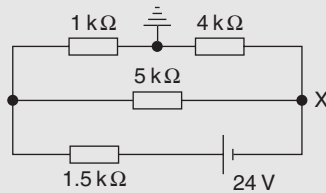

Figure 5.50
**Problem 17.** For the circuit shown in Fig. 5.50, calculate (a) the voltage drop across the  $4 \text{ k}\Omega$  resistor, (b) the current through the  $5 \text{ k}\Omega$  resistor, (c) the power developed in the  $1.5 \text{ k}\Omega$  resistor, (d) the voltage at point X w.r.t. earth and (e) the absolute voltage at point X.